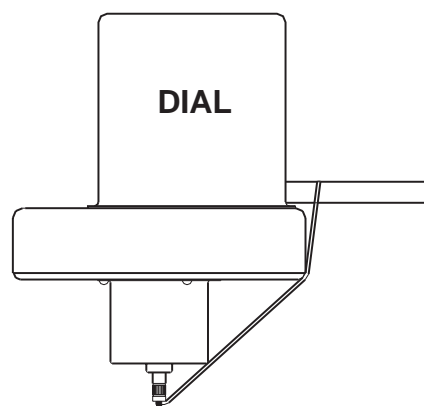

Figure G1
- ☐ Support pointer shaft with rubber band as shown in Figure G1.